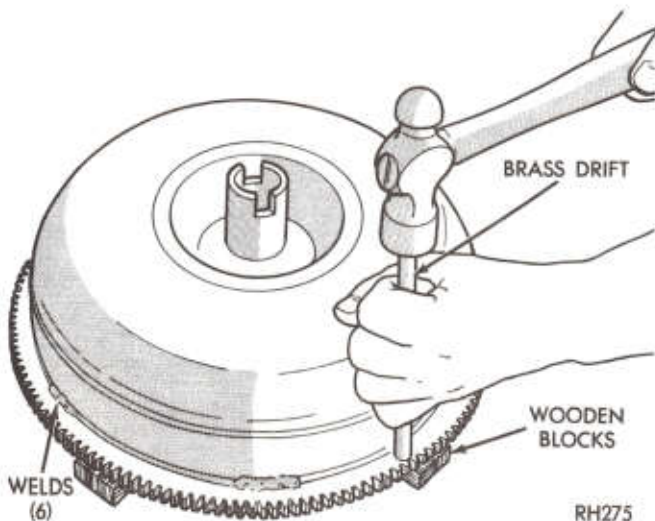

Fig. 2—Remove Starter Ring Gear (Nonlockup Only)
(1) Cut through weld material at rear side of ring gear with a hack saw or grinding wheel (Fig. 2). Be careful not to cut or grind into front cover stamping.
(2) Scribe a heavy line on the front cover next to front face of ring gear to aid in locating the new gear.
(3) Support torque converter on front cover, next to the lugs with blocks of wood to prevent altering lug position. The torque converter must **not** rest on the front cover hub during this operation. Using a blunt chisel, or drift and hammer, tap downward on ring gear near welded areas to break any remaining weld material (Fig. 2). Tap around ring gear until it comes off the torque converter.
(4) Smooth off weld areas on the cover with a file.